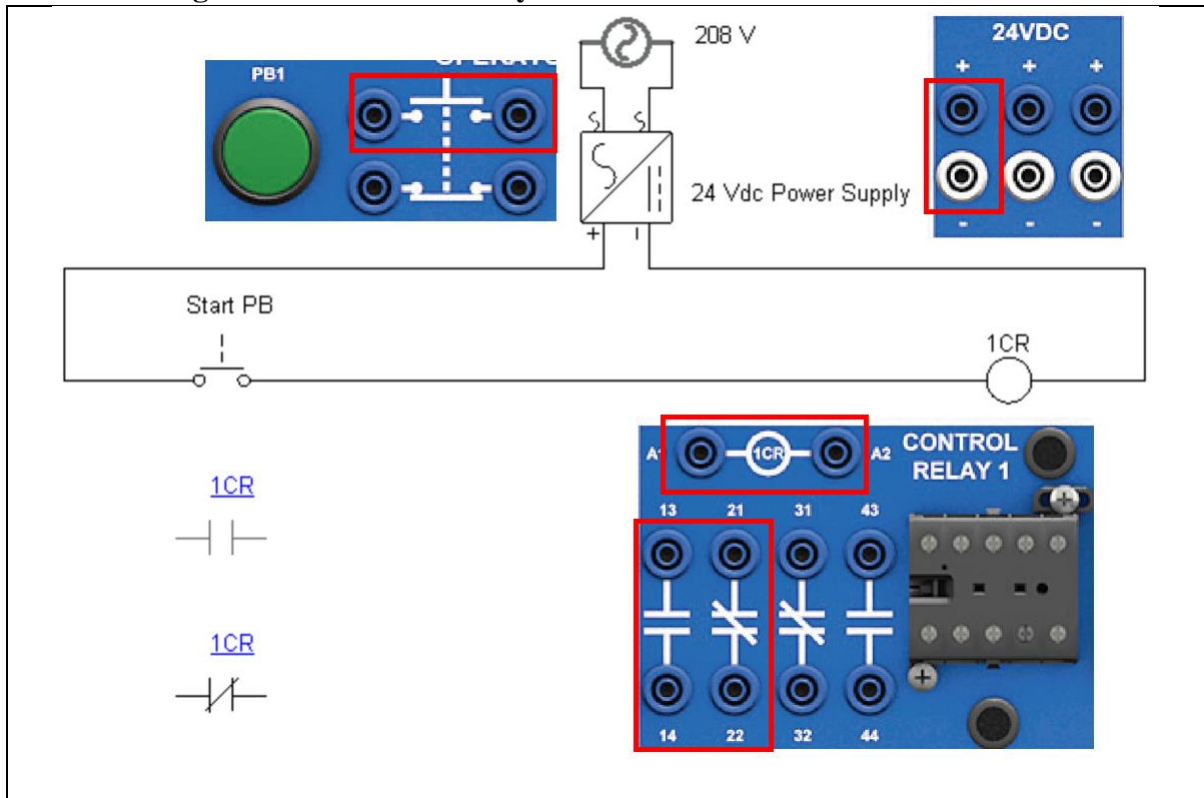

Figure 3. Checking the resistance of relay contacts.
2. Figure 3 shows the coil of 1CR controlled by a N.O. pushbutton (Start PB). It is important to understand how the relay contacts react when the coil is energized.
3. Assemble the circuit in Figure 3 on the Motor Control training unit, then power on the system.